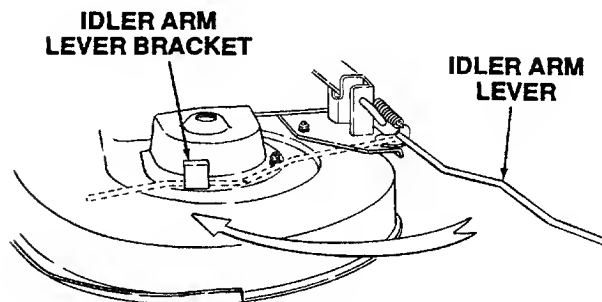

Figure 38
6. Engage the deck idler arm lever back into its stop bracket (Refer to Figure 38).